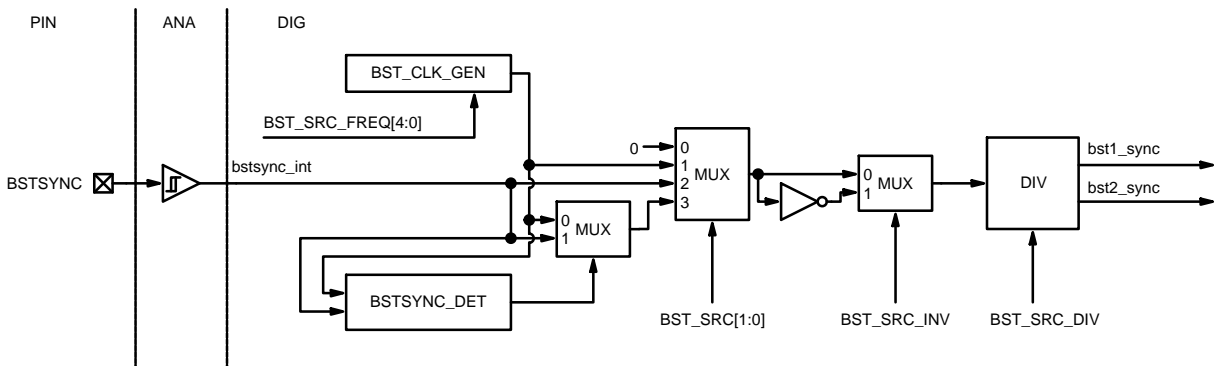
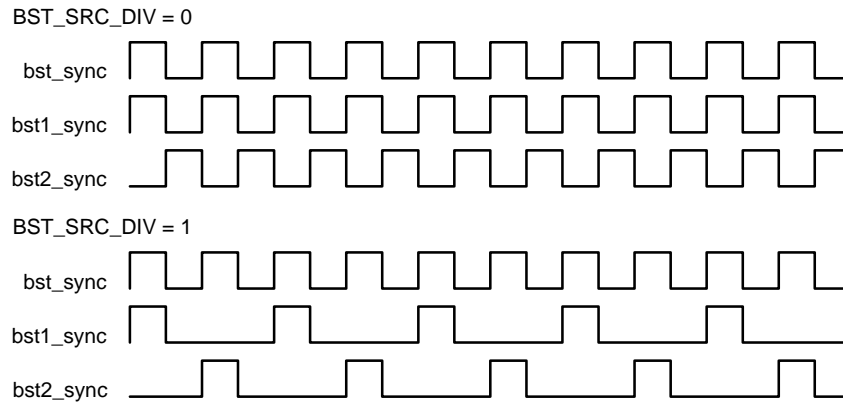

Figure 17. NCV78902 Booster Frequency Generation Block
Figure 18. PWM Generator Clock Divider
When register BST_SRC = 3, the automatic booster PWM clock selection is activated. Switch sequence to internal clock is initialized when no rising edge on external source (bstsync_int on Figure 17) is detected within 3 consecutive rising edges of internal bst_sync clock. For this purpose, internal clock should be set to similar frequency as external source to ensure smooth transitions. Switch sequence to external clock is initialized when rising edge on external source (bstsync_int) is detected.
- To synchronize the MOSFET gate PWM clock and needed phase shifts, the boosters must use the external clock generation (BSTSYNC), generated by the board MCU or external logic, according to the user-defined control strategy. The generic number of lines needed is equivalent to the number of devices. When two chips are combined, the slave device shall have BST_SRC_INV bit at '1' (clock polarity internal inversion active), whereas the master device will keep the BST_SRC_INV bit at '0' (= no inversion, default). On top of that, to get four phases with phase shift, the BST_SRC_DIV bit has to be at '1', meaning that gate clock is divided by two (please see Figure 17 and Figure 18 for more details).